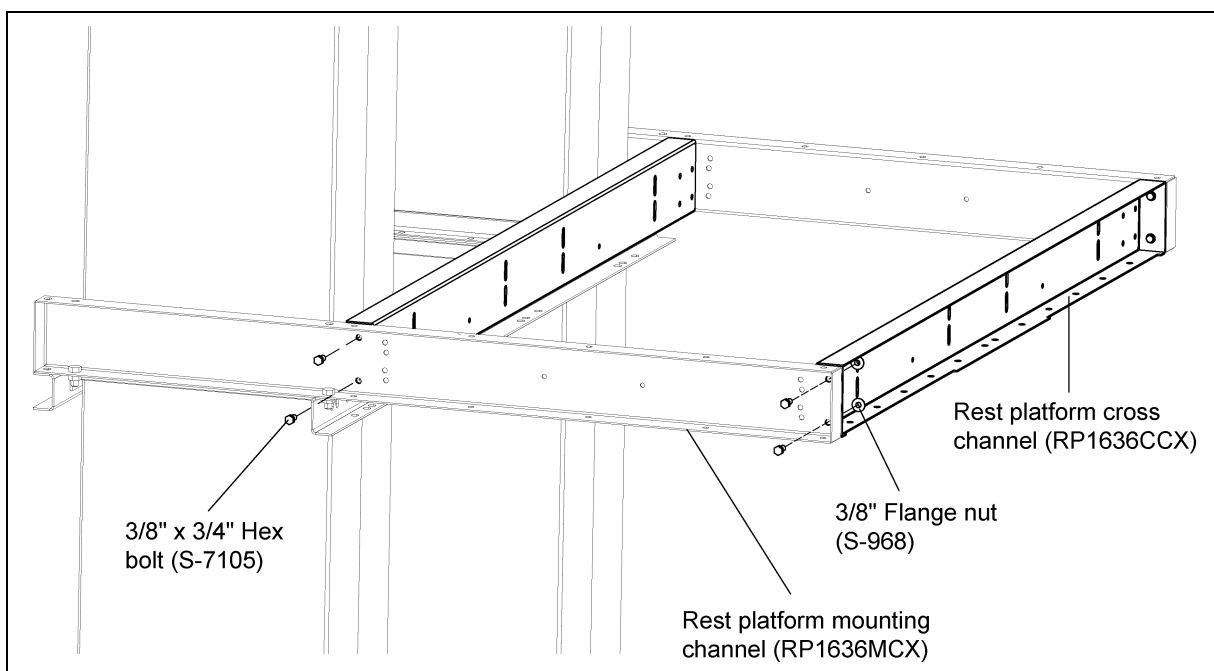

Figure 6K Rest Platform Cross Channel to Rest Platform Mounting Channels
1. Place the rest platform cross channels between the rest platform mounting channels and connect those using 3/8" x 3/4" hex bolts. (See Figure 6K.)